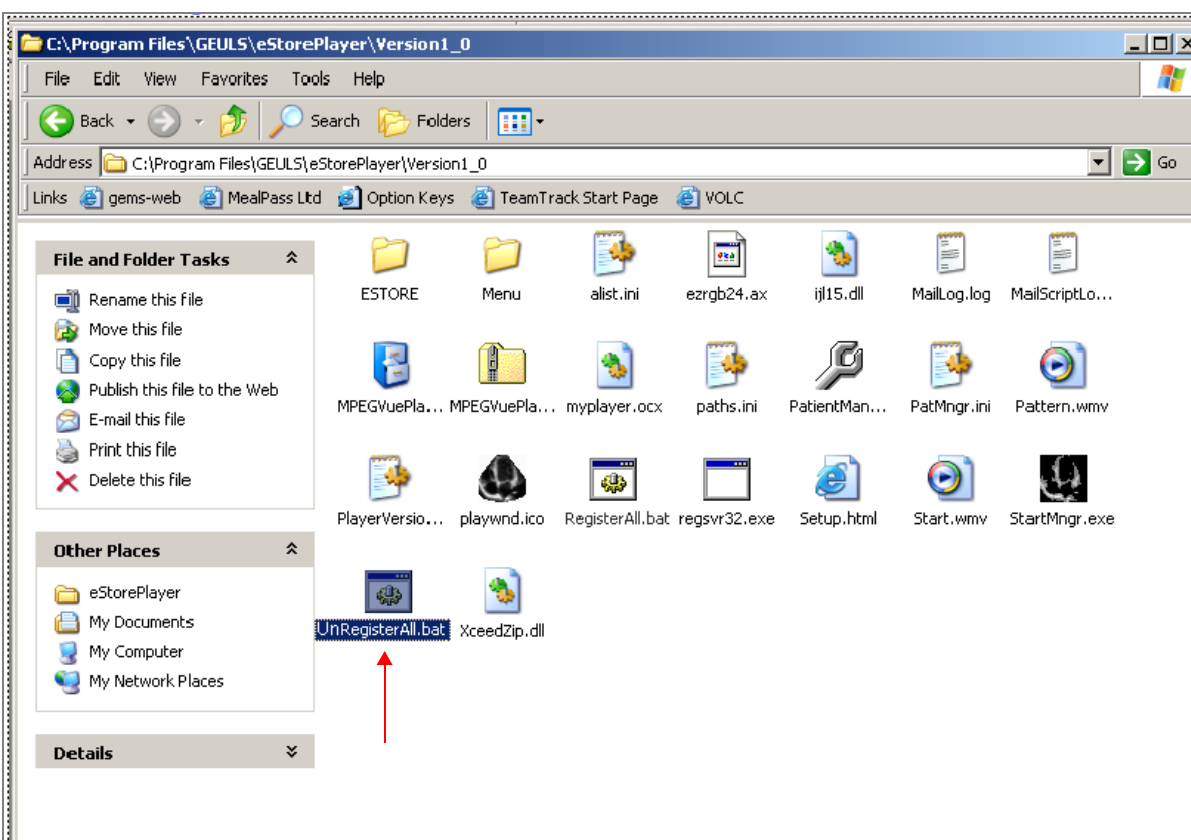

Figure 3-164 Uninstall MPEGvue - Stage 1
- 3.) From the **C:\Program Files\GEULS\eStorePlayer\Version1_0** folder, double-click on the **UnRegisterAll.bat** icon, as shown in Figure 3-164 below.